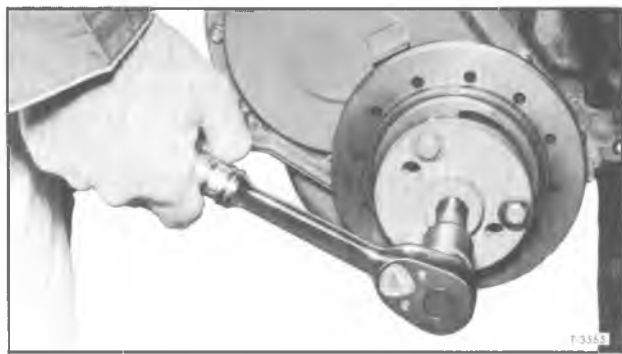

Figure 20—Removing Crankshaft Damper
4. Install Tool (J-6978-04) on damper and turn puller screw to remove damper (fig. 20). Remove tool from damper.